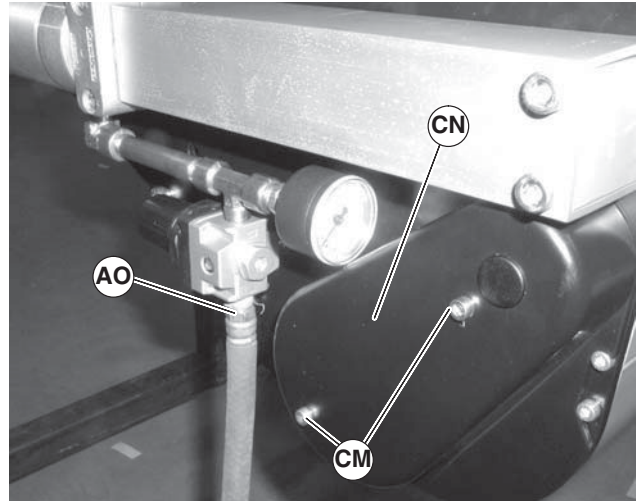

Figure 75
- Remove air supply and remove hose (Figure 75, item AO) from center drive.
- Remove screws (Figure 75, item CM) and guard (CN).